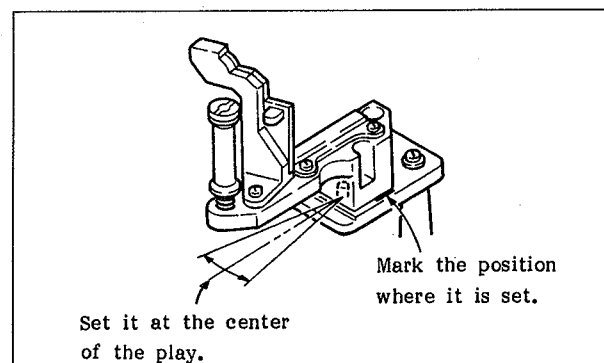

Fig. 6-119 Adjustment of the Position of the T Guide Base Assembly
6. Set the T guide base assembly at the center of its play and mark the position of the T roller base as shown in Figure 6-119.